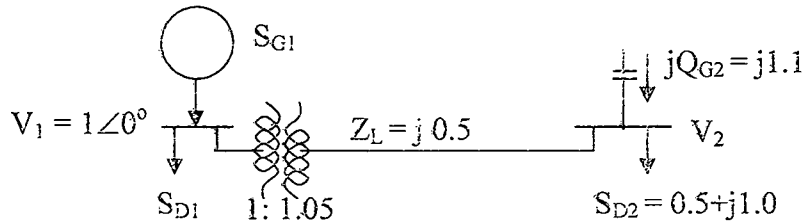

Fig. 12.b
12.b For the system shown in Fig.12.b find out the voltage at bus 2 after two iterations using Fast-Decoupled method and the line flow. All values are in pu.